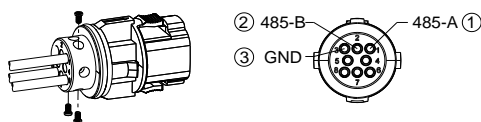

FIG.5 Pin positions of Connector
3.2.2 Wiring signal cable in meter (as per FIG.2 and FIG.5 to connect meter)